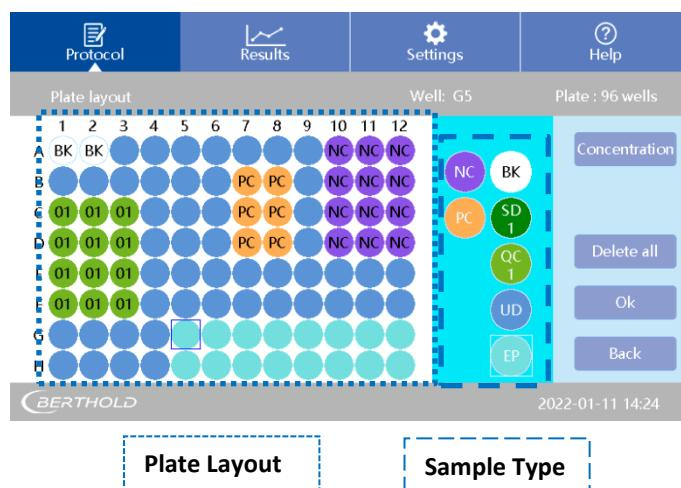

Fig 16: Plate layout
2. First select the sample type. Tap on the desired sample type. The type selected will have a white frame (on Fig 16 EP). Then select the well position on the plate layout. The selected positions on the layout will match the colour of the selected type.